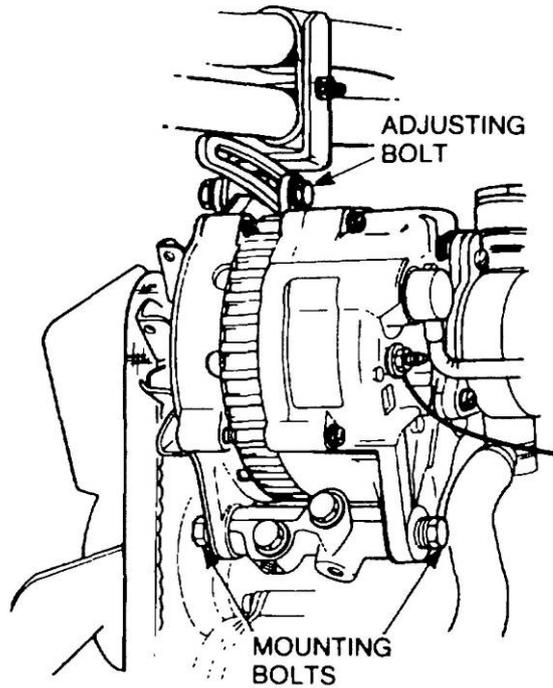

Figure 58 Installing the Alternator and Mounting Bracket
- mmm.** Position the alternator on the mounting bracket and install the two mounting bolts. Align the alternator adjusting bracket with the adjusting bolt hole on the alternator and install the adjusting bolt (Figure 58). Do not tighten the alternator adjusting and mounting bolts at this stage.